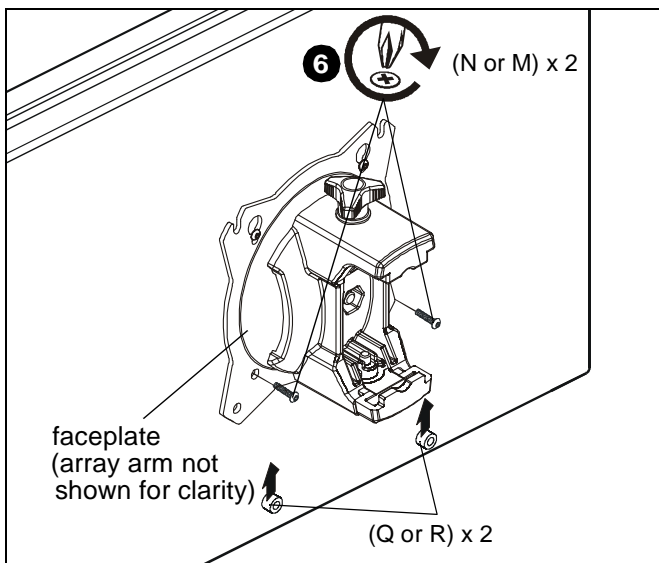

Figure 8
5. Slide two remaining selected spacers (Q or R) in between faceplate and display, positioning them over the *lower* two mounting holes. (See Figure 8)
6. Install two remaining selected screws (N or M) through *lower* two mounting holes on faceplate, selected spacers (Q or R) into the *lower* mounting holes on the display. (See Figure 8)